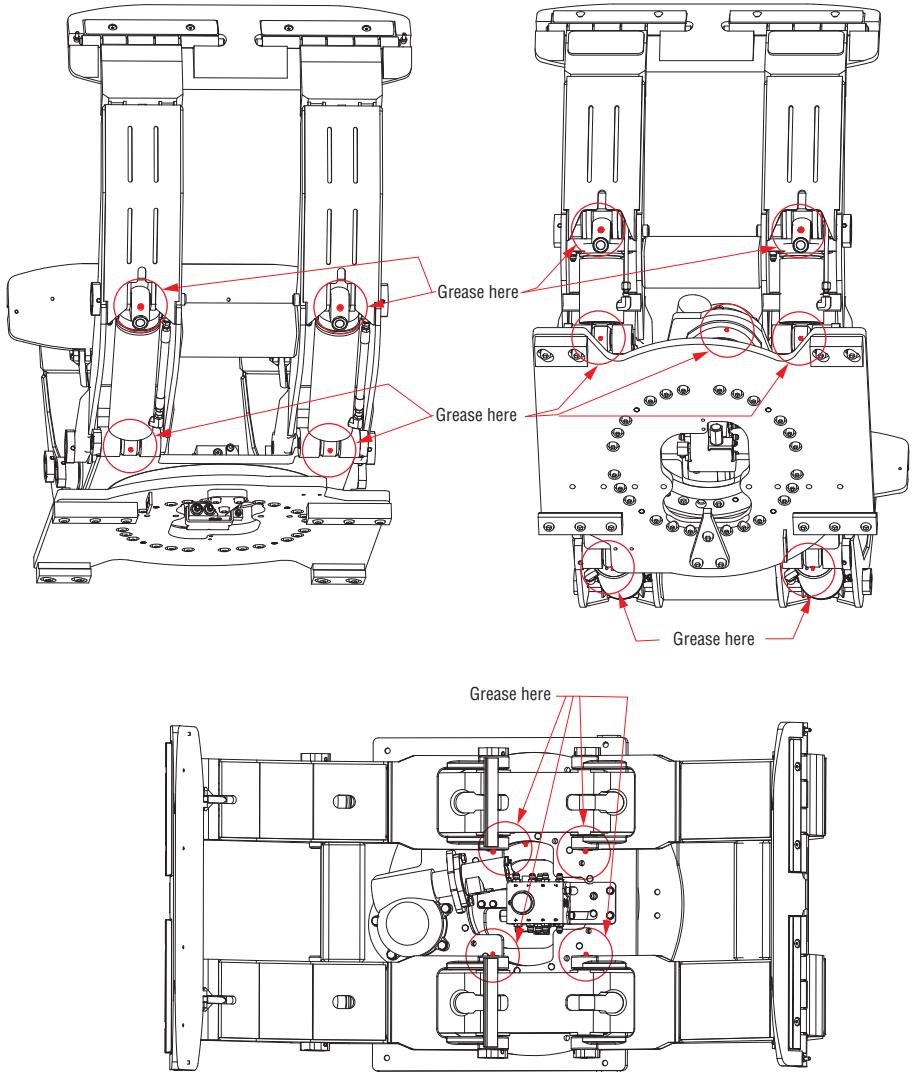

Figure 6-1, Grease Zerk Locations
3. Grease all pivot pins. See Figure 6-1.